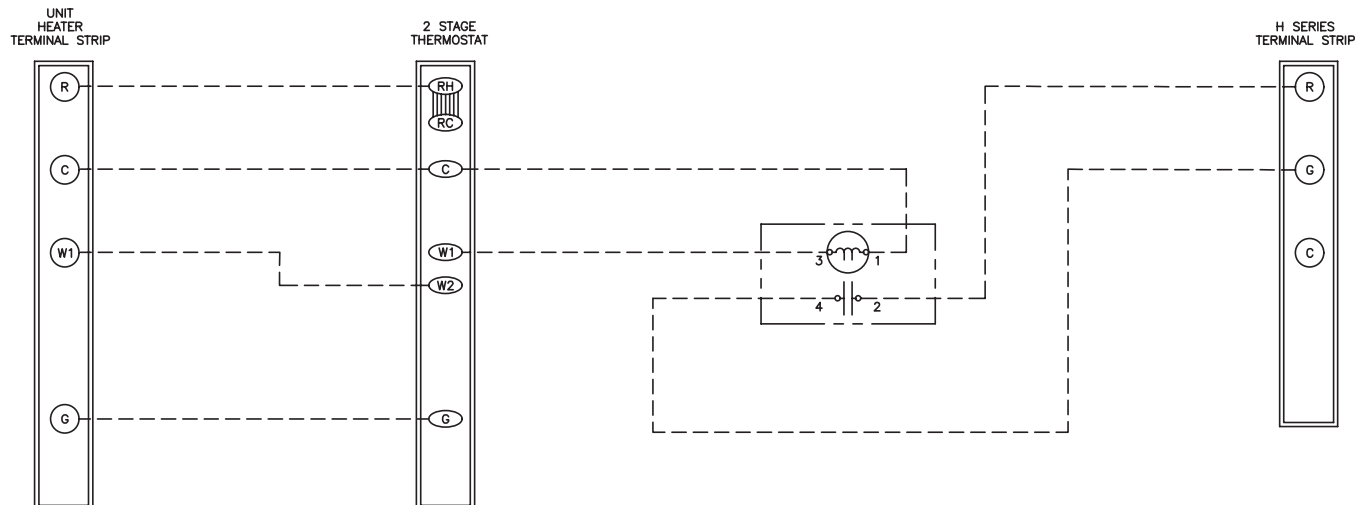

Figure 4. Fan and Unit Heater Wiring Diagram
- If the installation features a Huracan fan and a Reznor model UDX gas-fired unit heater controlled by a single two-stage thermostat, ensure that the wiring is in accordance with the wiring diagram shown in **Figure 4**.